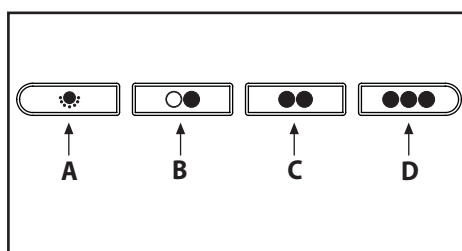

Fig.13
• Mechanical controls (Fig.13): the symbols are as follows: